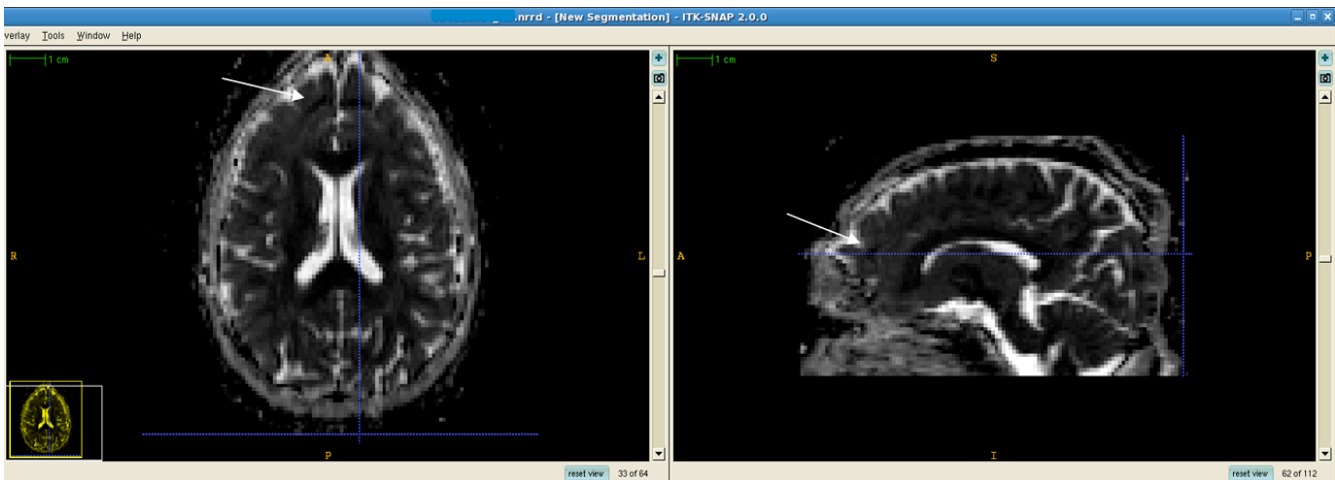

Figure 4.7 Pre-frontal anomaly in RD ~.nrrd file, axial and sagittal views
- Figure 4.7 demonstrates a pre-frontal anomaly in ~50% of a dataset from a Phillips protocol. It is mostly visible in axial views, but is occasionally visible in the sagittal view as well.
This is the same case and anomaly as in Figure 4.7, but viewed in the FA color file. The red arc showing in the pre-frontal area is not a result of anatomy and may be examined in Slicer for further evidence in determining whether the anomaly is anatomical or acquisition-based.